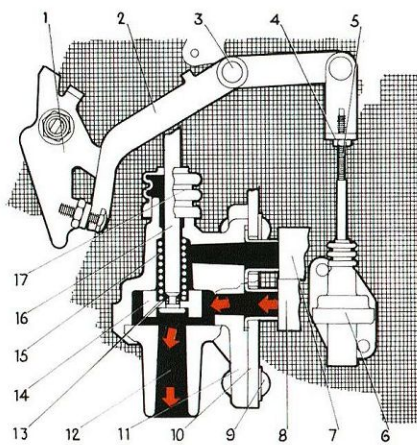

Fig. 2-101. Hot start valve, function, idling (Zenith-Stromberg carburetor)
When the throttle is at idling position, the lever (1, Fig. 2-101) presses against the valve control (2). The piston (14) is thereby lifted to its upper position
When the accelerator pedal is depressed (see Fig. 2-101), the lever (1) releases the valve control (2) and the piston (14) is pressed by the spring (15) against its lower position. The outlet (12) is shut off, the fuel fumes are led into the air cleaner and, when the engine starts running, then through the carburetor and into the engine combustion chambers.